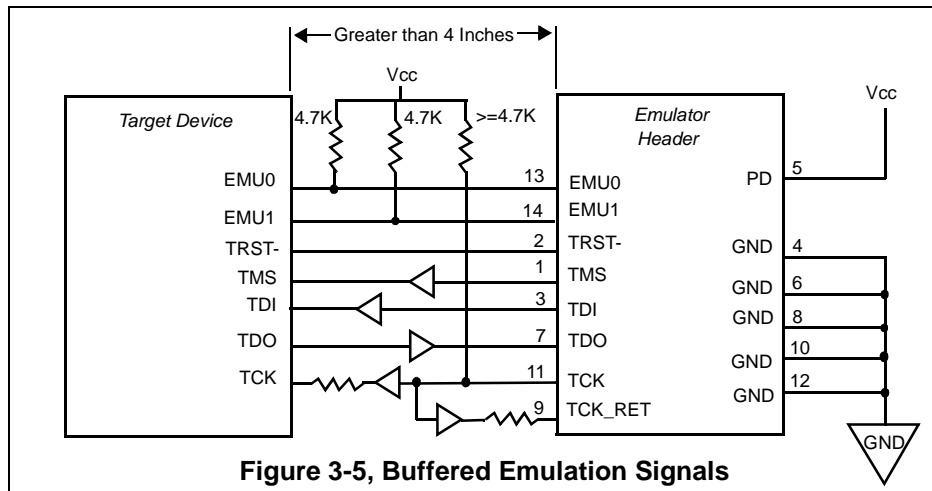

Figure 3-5, Buffered Emulation Signals
- **Buffered emulation signals.** Figure 3-5 shows the distance between the emulation header and the target device is greater than 6 inches. The target device signals--TMS, TDI, TDO, and TCK_RET are buffered through the same package.